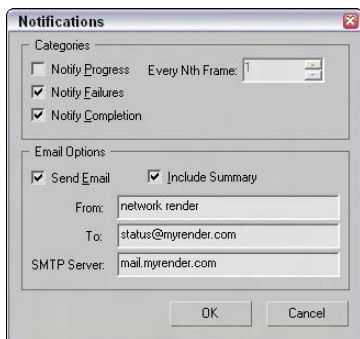

Figure 45-13: The Notifications dialog box lets you specify which type of notifications to receive.
- ♦ **Enable Notifications:** Lets you tell Max when to notify you that certain events have occurred. If you check the Enable Notifications option, the Define button becomes active. The Define button opens a Notifications dialog box, shown in Figure 45-13.